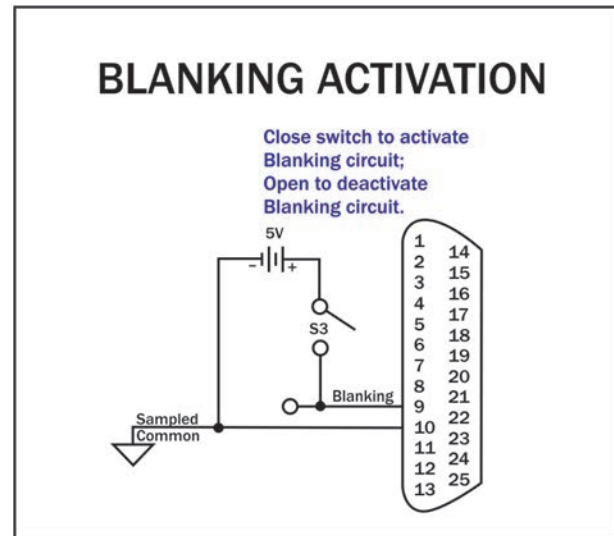

Figure 6.15 – Blanking Activation
**Method:** Build a switchable circuit using an external, isolated 5V power supply that can apply a +5V signal to PIN 9. Connect across PIN 9 (Blanking) and PIN 10 (Sampled Common). See **Figure 6.15**.